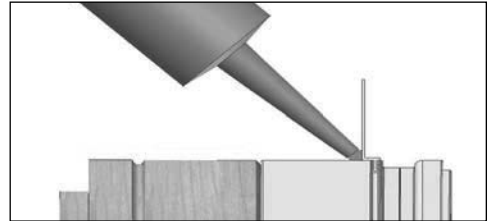

FIG. 11
- a. On all four sides, apply a 1/4" continuous bead of silicone along the backside of the nailing fin where it meets the frame. (Fig. 11)